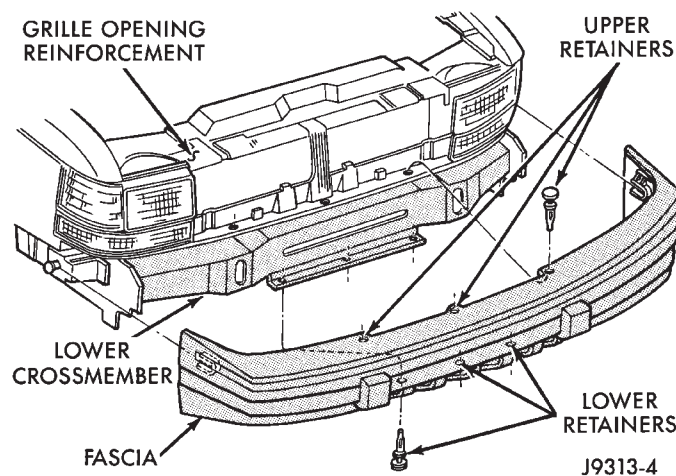

Fig. 6 Lower Fascia Removal
(14) Repeat procedure for other side of front end.
(15) Remove license plate bracket if equipped, from bumper fascia/crossmember.
(16) Remove 6 retainers at front fascia (Fig. 6).
(19) Remove fascia from lower crossmember (Fig. 6).